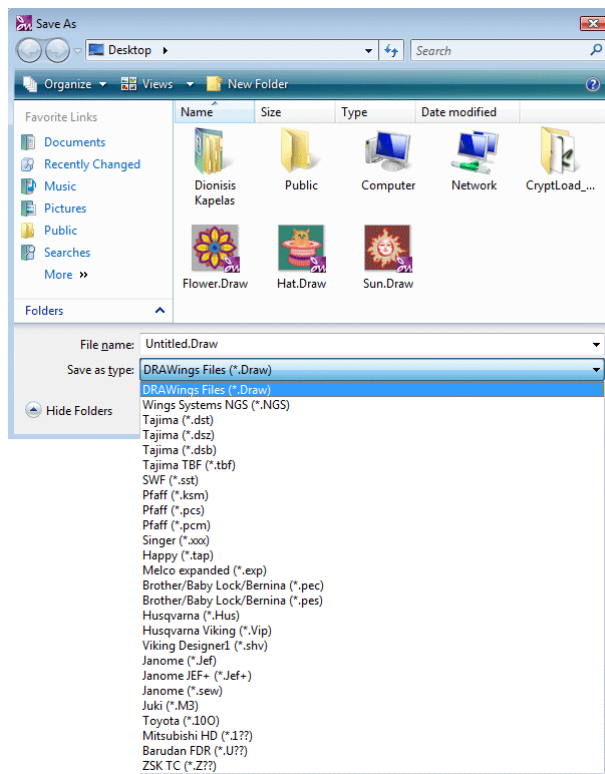

Figure 2.40: Save As dialog box
35. To proceed to the embroidery process you have to save the file to the embroidery file format your machine can read. To do that you have to select the **File** menu and then the **Save as** option. (Figure 2.40).